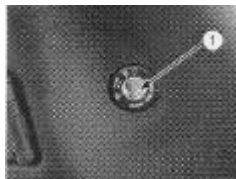

Fig. 7
## IGNITION SWITCH (FIG. 7)
1. Set the ignition switch to "  " (FIG. 7). The lights on the dashboard come on for a second as the test check is run. The message CODE appears on the LCD display.
1. Release the electronic throttle, stop the scooter by pulling on the brakes, set the ignition switch to "  " (FIG. 7) and remove the electronic security key. This causes the power supply to be cut off and the scooter disabled, with the anti-theft device being re-enabled.